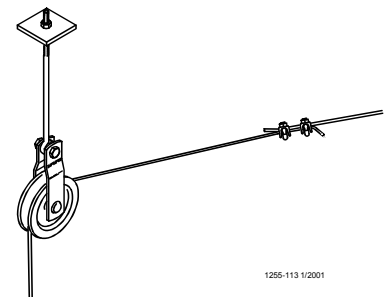

Figure 13. Full Line Suspension
Suspend the hopper, as shown in **Figure 13. on page 14** by routing the cable around the Full Line Suspension Pulley and fastened to the main cable, using (2) cable clamps.